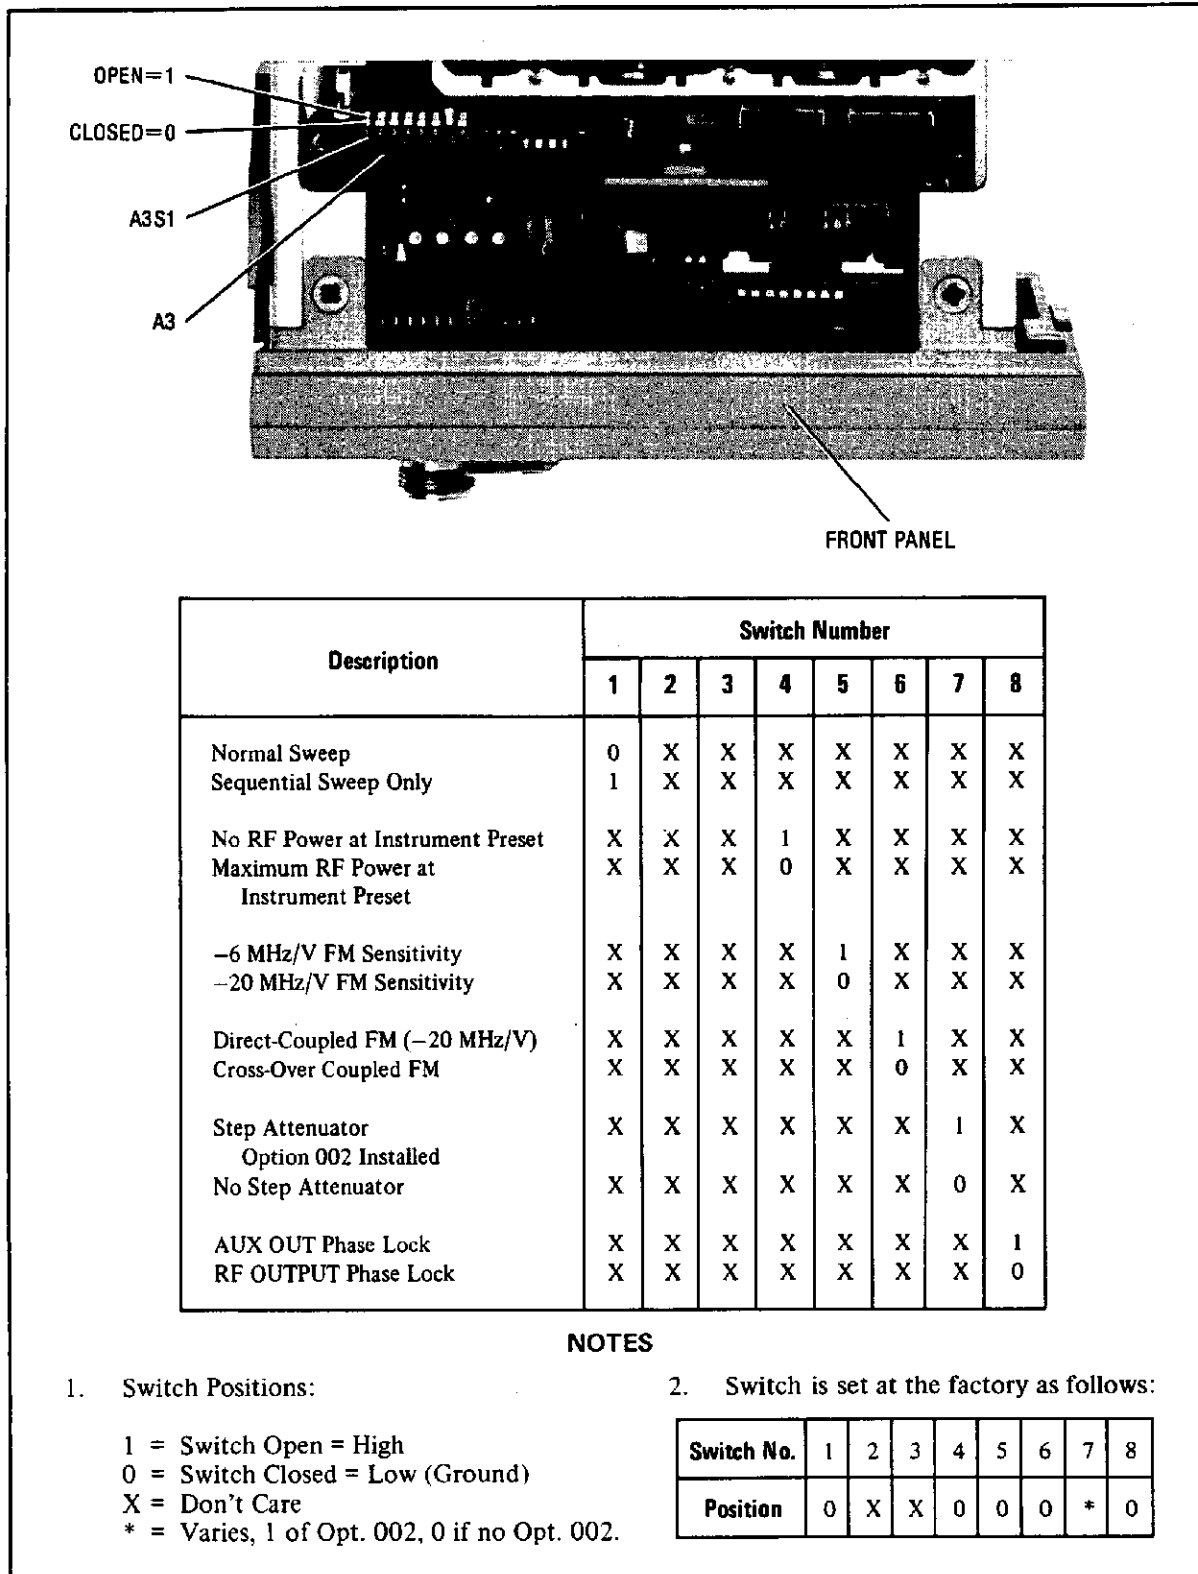

Figure 3-8. Configuration Switch
1. Set the Model 83592C Configuration Switch (A3S1) for an FM Sensitivity of -6 MHz/V, Cross-Over Coupled FM, and front panel RF OUTPUT Phaselock (See Figure 3-8 for specific settings of A3S1).
3-29. The RF power set at power-up (during Instrument Preset) may be either 4 dBm or RF power OFF as selected by the configuration switch (A3S1). Refer to Figure 3-8 for this setting. Configuration switch settings relating to the specific model Plug-In used and Option 002 Step Attenuator equipped instruments must be set prior to operation. Configuration switch number 7 is set at the factory and should not be changed.
3-36. The RF output signal of the Model 83592C can be phase-locked to a specified CW frequency using the HP 5344S Option 043 Microwave Source Synchronizer. The Model 83592C signal is automatically tuned by the HP 5344S. Alternatively the Model 83592C signal can be phase-locked to an external reference oscillator. In either case, the phase-lock signal is applied to the Model 8350A/B rear panel FM INPUT connector. The phase-lock function provides a means of obtaining a very stable CW signal by transferring the frequency stability of the HP 5344S Source Synchronizer or the reference oscillator to the Model 8350A/B and eliminating frequency drift. The Model 83592C CW frequency used for phase-locking may be either the RF output or the fundamental oscillator frequency available at the rear panel AUX OUTPUT. However, use of the front panel RF output requires a broadband coupling device. Therefore it is preferable to use the rear panel AUX OUTPUT for phase-locking. Configuration Switch A3S1 switch position 8 must be set according to which Model 83592C output signal is used as the CW source for phase-locking (see Figure 3-8). The CW filter should be turned off in phase-lock operation. Figure 3-7 shows an example of phase-locking the Model 83592C front panel RF output signal using the HP 5344S Source Synchronizer and the HP 11691D 2 to 18 GHz Directional Coupler.